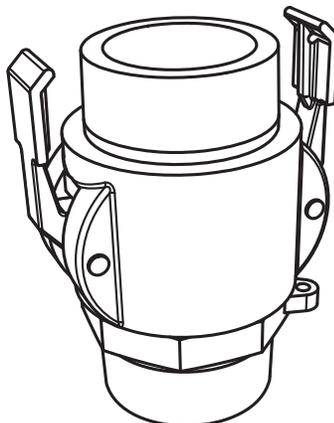

Figure 5
- 4.) Close the female cam lock handles once the gauge head rotation is set (Figure 5)